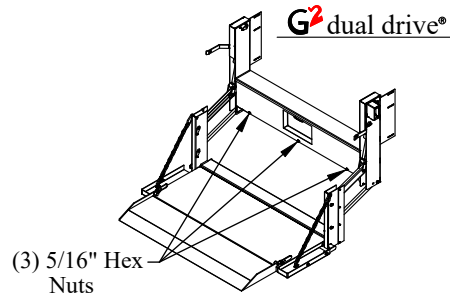

Figure 13: Box cover locations.
1. **Remove** the box cover by removing the 5/16" hex head nuts (Figure 13).